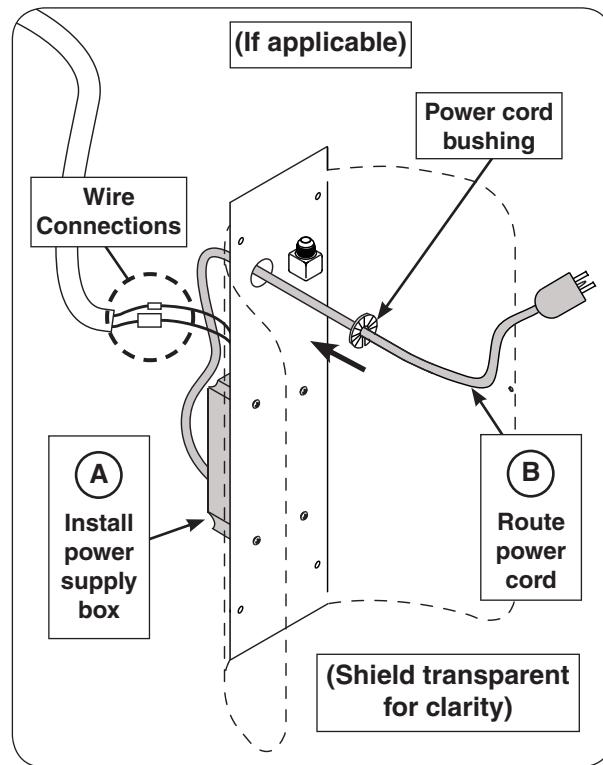

Fig. 1-1 Install power supply and route power cord
3. Install the power supply box to the tank shield plate using the existing screws from the previous plate (see Fig. 1-1, A).
6. Install the power cord bushing onto the power cord. Slide the bushing up against the access plate knock-out hole and snap into place. See Fig. 1-1.
3. **If applicable**, orient the tank shield plate near the post and re-connect the power supply wires to the wire harness. See Fig. 1-1 on the previous page.